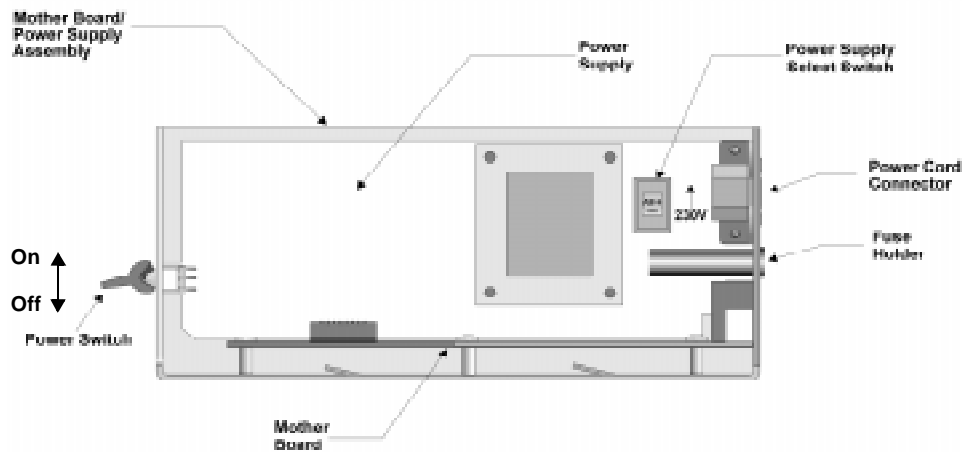

Figure 3-12 Side View of Mother Board/Power Supply Assembly
2. Turn the main power switch to the “off” position. (See Figure 3-12.)
7. Switch the power supply select switch to the up position. The switch will show 230VAC. (See Figure 3-12.)
12. Turn the main power switch to the “on” position. (See Figure 3-12.)